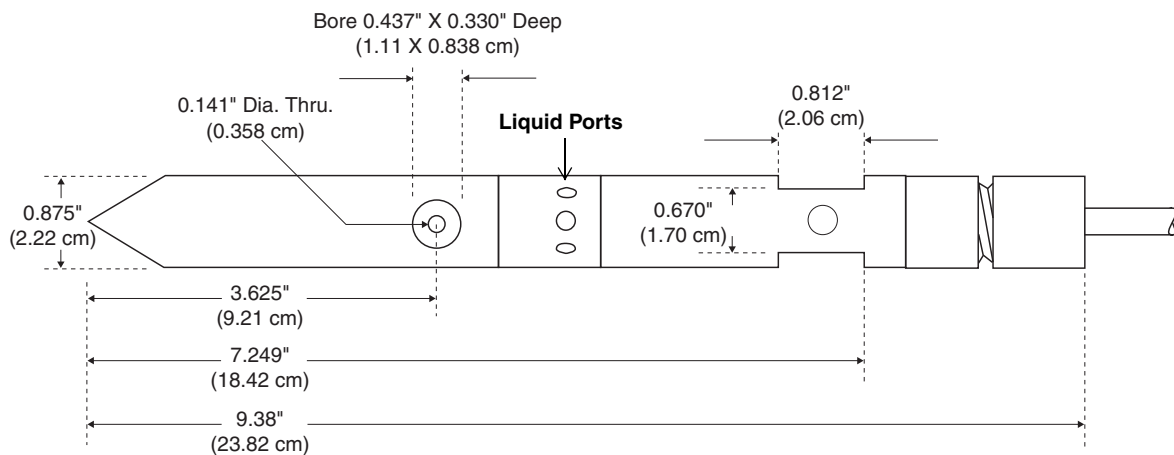

Figure 3-4 Submerged Probe Dimensions
- 3.11.4 Weirs and Flumes** The 4220 Flow Meter is generally used with some type of primary measuring device, such as a weir or flume. The placement of the submerged probe in the primary device is determined by the type of primary device. You can use one of Isco's mounting rings to install the probe in many weirs and flumes. If the mounting ring are not suitable, you must build your own mounting hardware. Figure 3-4 shows the dimensions of the probe for your reference when building your own hardware. Figure 3-11 shows the probe installed in several primary devices. Certain flume manufacturers produce flumes with built-in cavities for Isco's submerged probe. Contact the flume manufacturer for details on the special flumes.